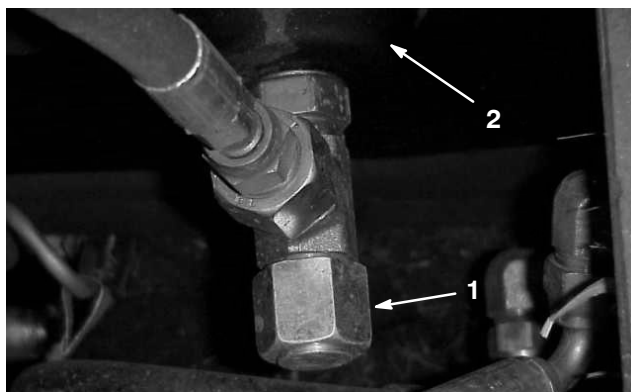

Figure 52
2. Locate plugs at right rear behind front wheel, at rear center and front center of reservoir (Fig. 52).
1. Place drain pan under reservoir. In turn, remove all 3 drain plugs and let oil drain into pan (Fig. 52).